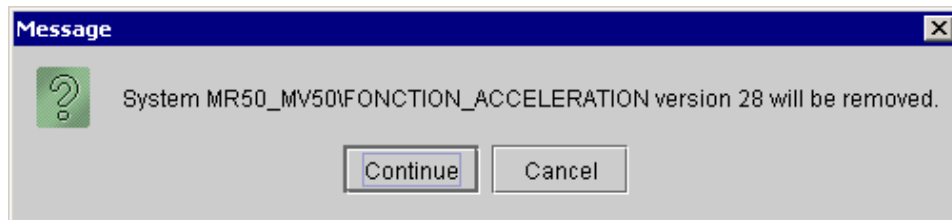

Figure 152 : System removal message
- ♦ Select the command **Remove...** → **System**, a *Message* window is displayed indicating that the selected version system will be removed (Figure 152).